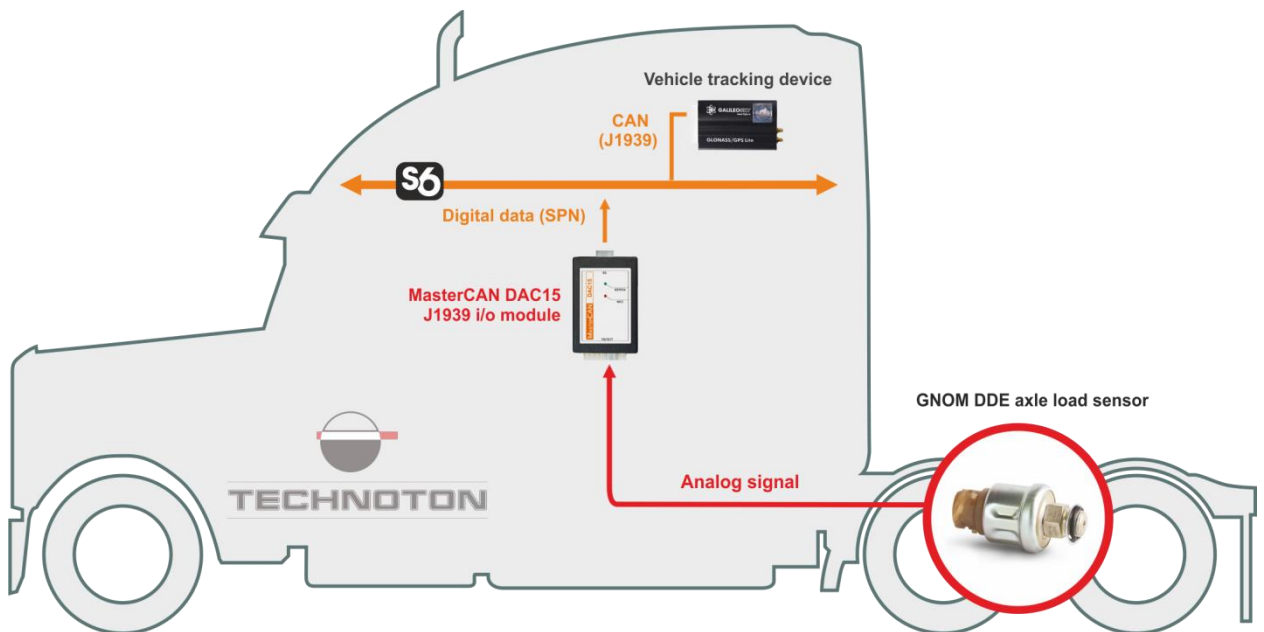

Figure 3 – Example of MasterCAN DAC15 employment for conversion of an analog signal into CAN j1939/S6 Telematics interface
- 2) Converting analog output signals of automotive sensors to digital data of CAN j1939/S6 Telematics interface (see figure 3).
MasterCAN DAC15 is convenient to use for conversion of an analog signal from GNOM axle level sensors into CAN j1939/S6 Telematics interface (see figure 3).